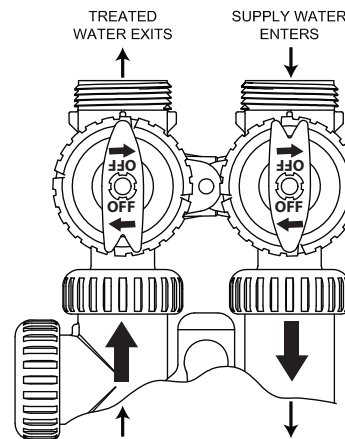

FIGURE 1
**Figure 1. Normal Operation Position:** The inlet and outlet handles point in the direction of flow indicated by the engraved arrows on the control valve. Water flows through the control valve during normal operation and this position also allows the control valve to isolate the media bed during the regeneration cycle.